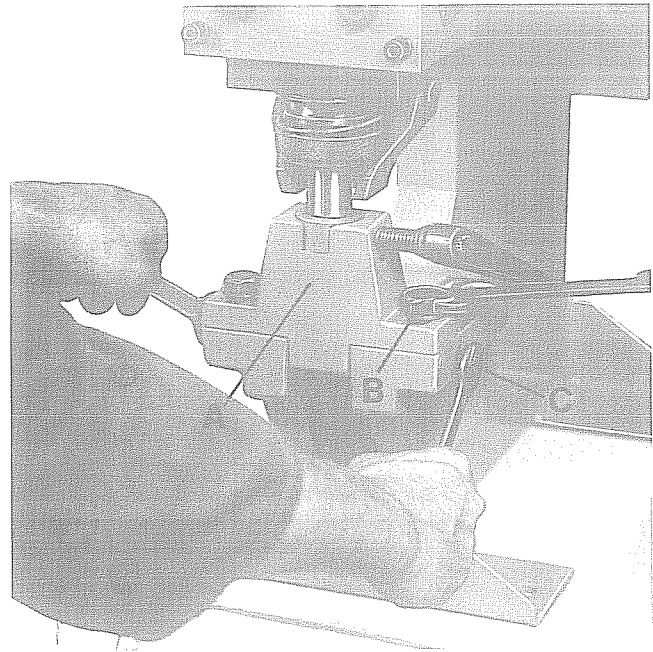

Fig. 20: Adjusting punch and die
5. Adjusting Punch and Die(Fig.20)